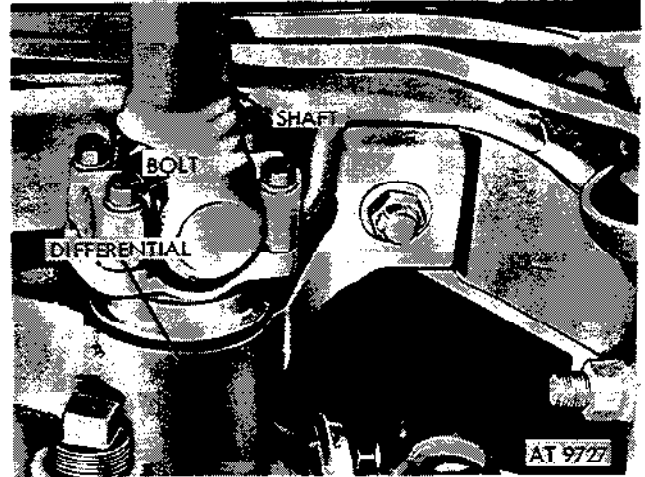

Figure 2-291. Remove universal joint bolts from differential end of propeller shaft.
(1) Remove four universal joint bolts from the differential end of the propeller shaft (fig. 2-291).